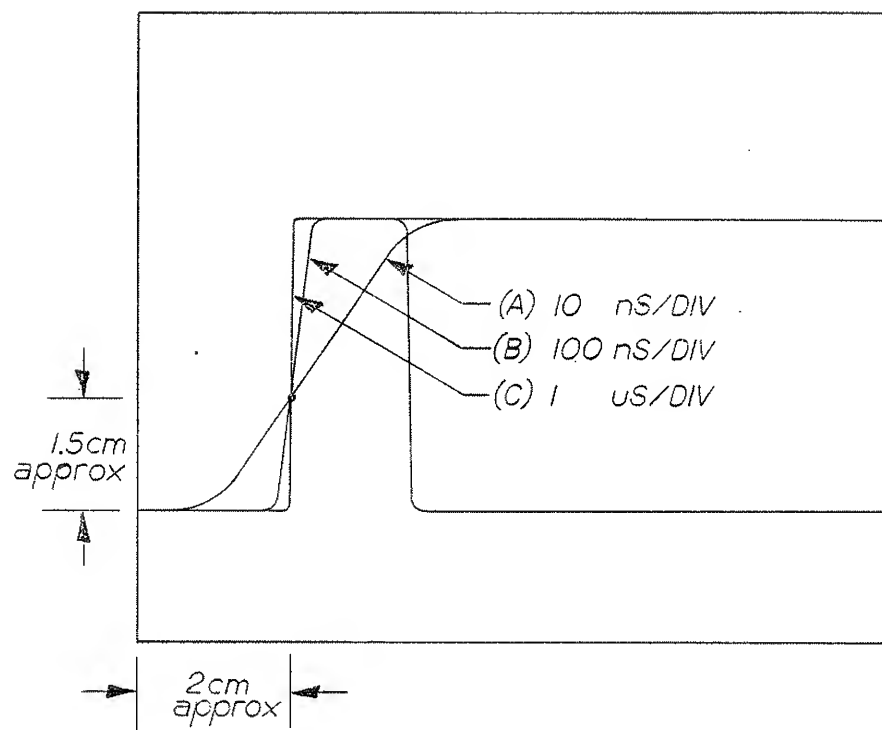

Figure 3.11 Auto Delay Indexing - Positive Pulse
The Auto Delay is used to automatically find and position a signal on the screen. Requirements for auto delay to function properly are: the signal must be at least 2 cm high on the CRT and the position of the signal must be greater than 2 cm after the beginning of the sweep. The Delay/Calibrator field can be set to search for the leading edge of either a positive or a negative pulse (with respect to baseline) on either A or B channel and position it on the CRT such that the point 2 cm after the beginning of the sweep is approximately 1.5 cm above (or below) the baseline, as shown in figure 3-11. The baseline is defined as the voltage level present at zero-delay time. Because of this baseline, the "chop" mode (AMXXRXXX or BMXXRXXX) should not be used with Auto Delay.
- b. If the pulse was within the search range of the Model 505, the leading edge should have indexed near the left edge of the screen as shown in figure 3-11.
- c. If the search for the signal failed due to the pulse being located outside the search range of the Model 505, the SEARCH FAIL light will flash. In this case, reduce the pulse generator delay slowly until the signal is indexed as in figure 3-11 and the light will go off. The Model 505 continues to search repeatedly, so that the pulse generator delay can be altered until the search succeeds.
Program data to the Model 505 is sent in bit-parallel, serial-by-character format on 6 data lines. ASCII code is used for the program data transmission (American Standard Code for Information Interchange). The ASCII input lines to the Model 505 are TTL low-true. The ASCII code is shown in figure 3-11, in which the dots signify the Low or "1" state.